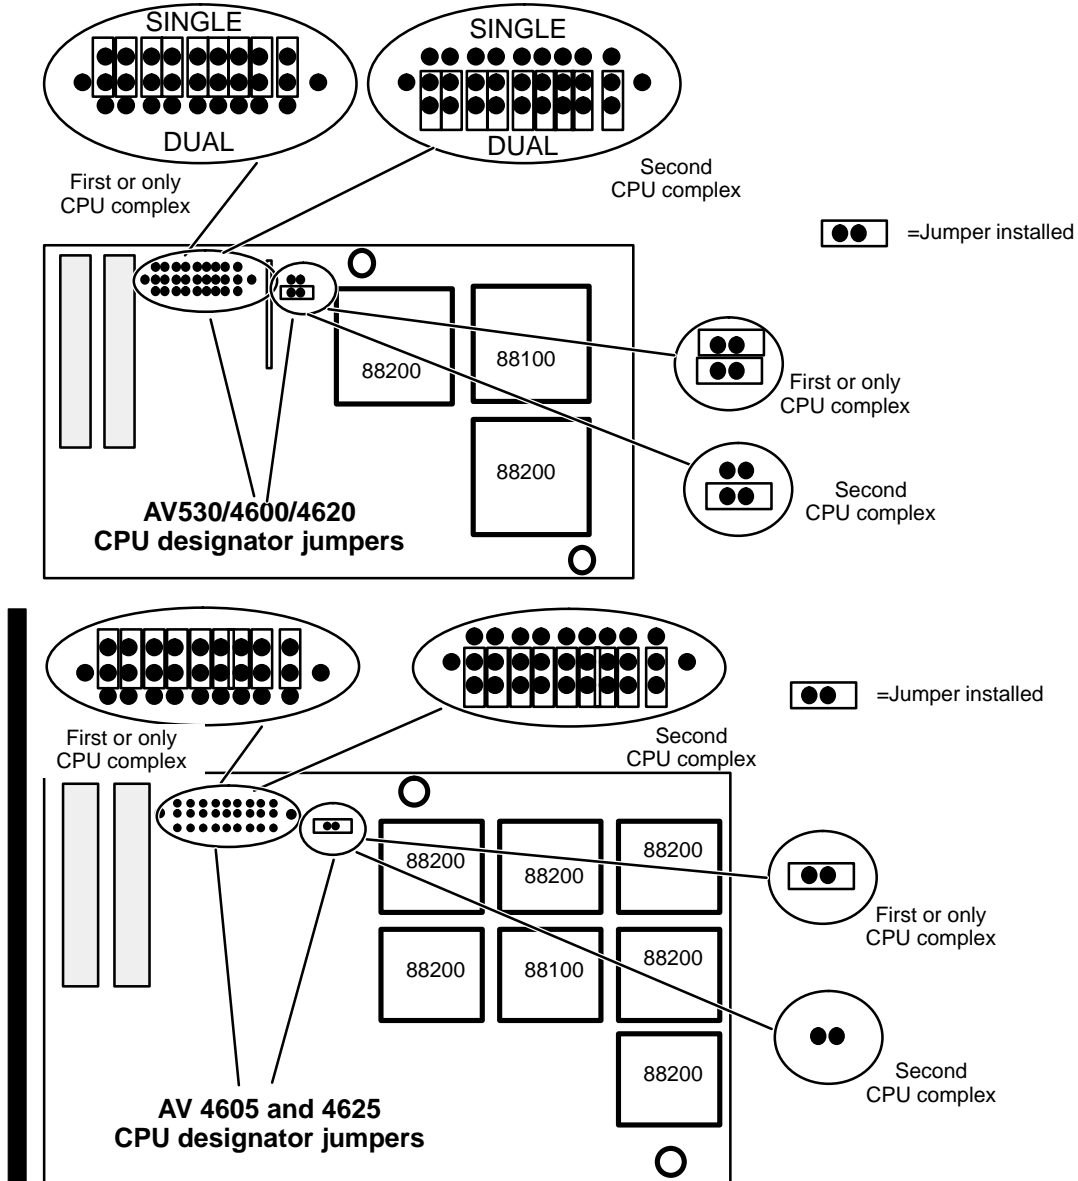

Figure 9-7 AViiON 530 and 4600 Series CPU Complex Configuration
- Verify, and if necessary reset, the jumpers in the new CPU complex board as indicated in Figure 9-7. Note that the “first ” complex must attach to the system board; a complex jumpered as the “second” board attaches to the first.